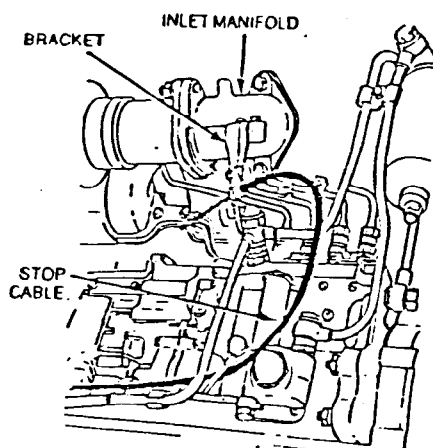

FIG 3 - CABLE ROUTING
- g. Remove the motor and cable and move to the new position. Run the cable as shown in Fig 3.